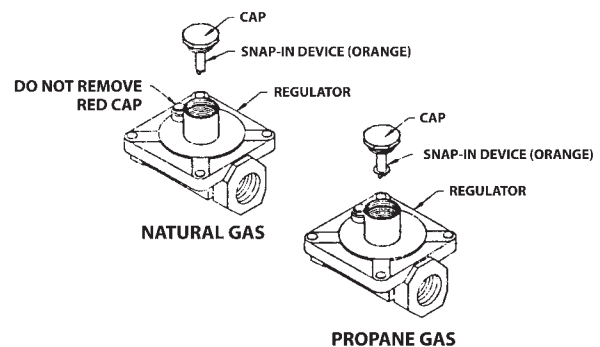

Figure 2
6. Convert the pressure regulator from Natural to Propane gas by inverting the snap-in device beneath the cap on the regulator. This will require a fair amount of pressure. Do not remove the spring. When replacing the cap make sure the snap-in insert goes down on top of the middle of the spring. (Fig. 2)